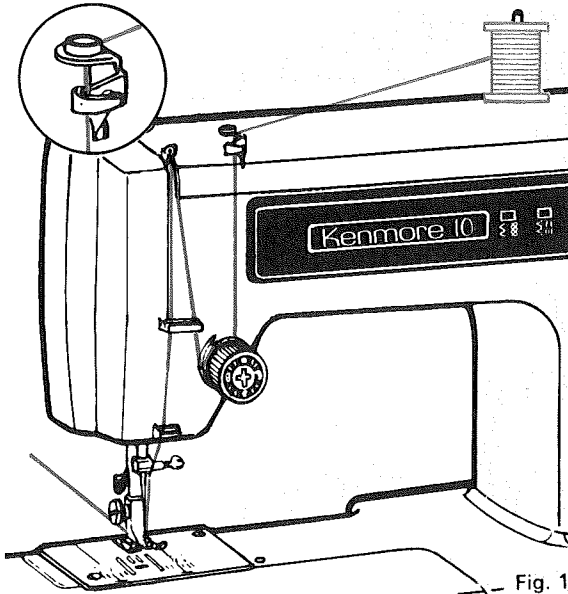

Fig. 1
1. Place thread on spool pin as shown with thread coming from the back of the spool. Draw thread through thread guide as shown in Fig. 1 inset. (Thread must not go through bobbin tension disc on top.)